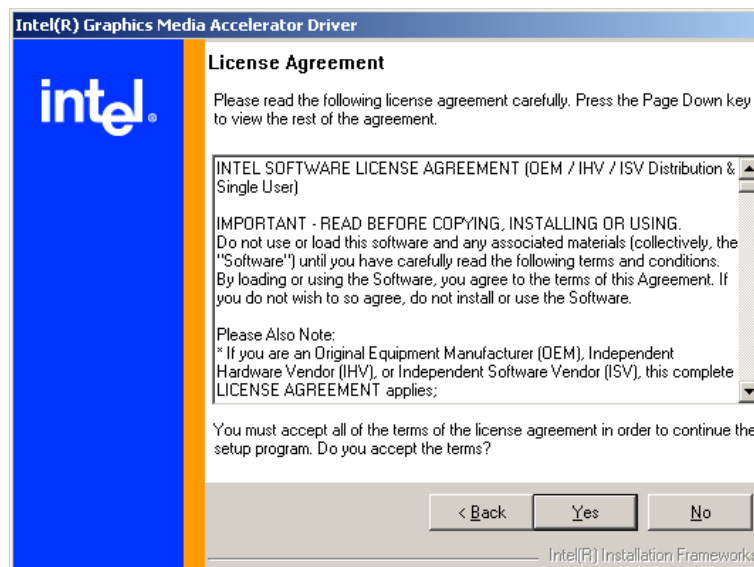

Figure 7-13: Intel® Graphics Media Accelerator Driver License Agreement
Step 10: Click **NEXT** and a license agreement appears (Figure 7-13).